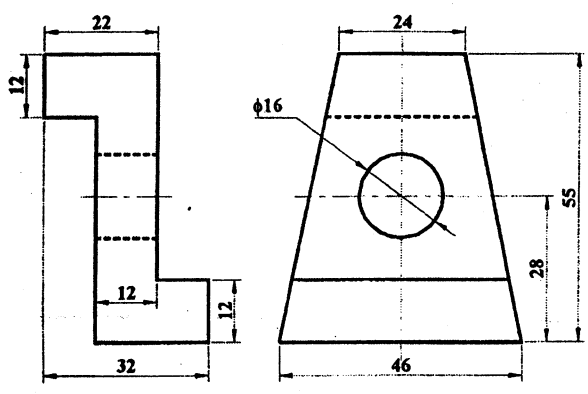

Figure P.1
1. Draw isometric drawing from the given orthographic views as shown in **Figure P.1**. [10]